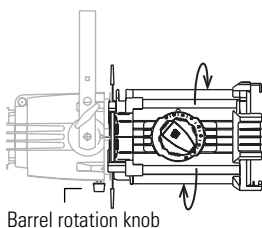

Figure 7
1. Loosen the barrel rotation knob directly behind the shutters on the underside of the reflector housing. See **Figure 7**.